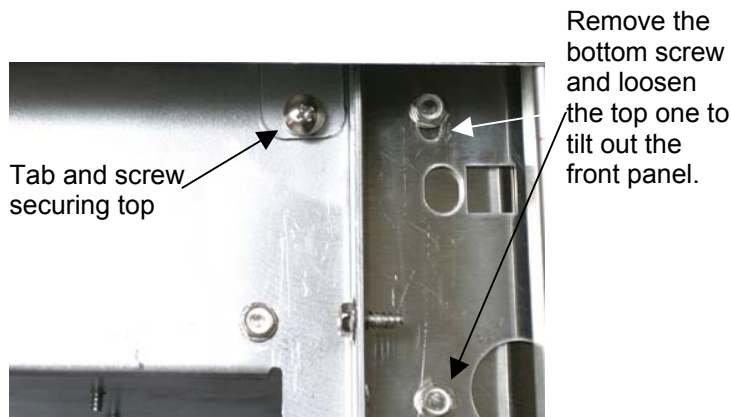

Figure 2: Four sheetmetal tabs hold the top in place. Remove these screws at each corner and lift off the top.
2. Lift and remove the sides, which exposes screws that hold the top in place. See **figure 2**.